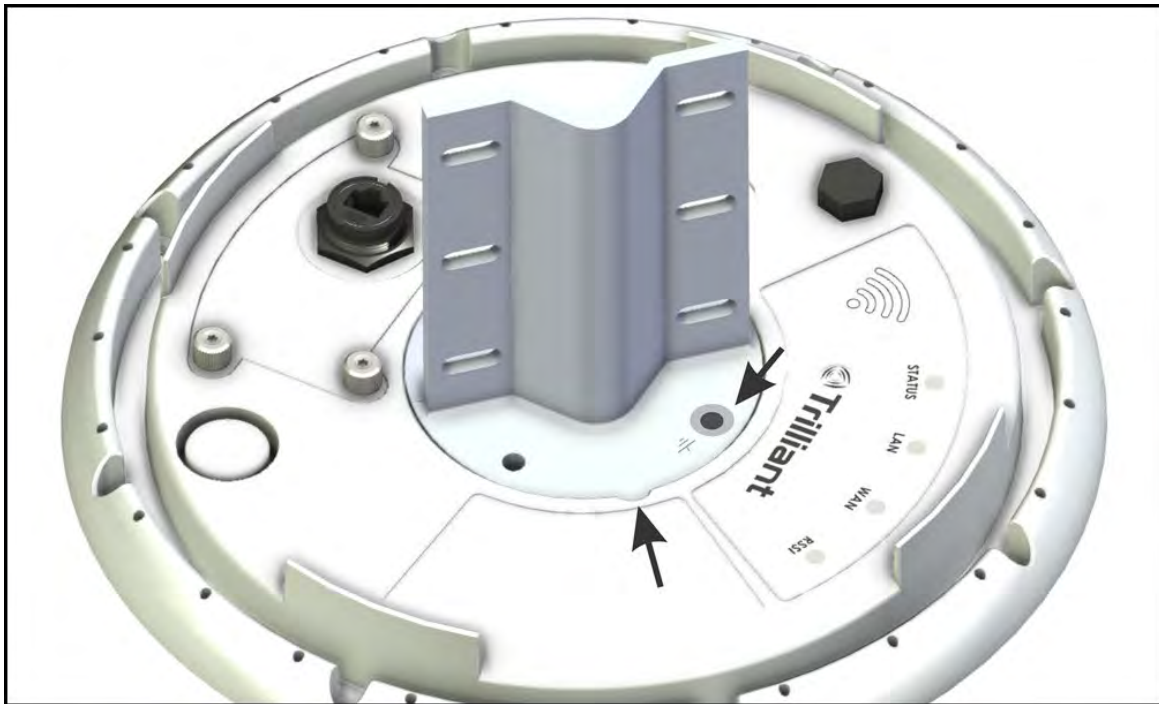

Figure 6: Bottom view of the XTEN-2000 base enclosure
2. Align the rounded point on the clamp mount with the notch on the base of the XTEN-2000 (see Figure 6).